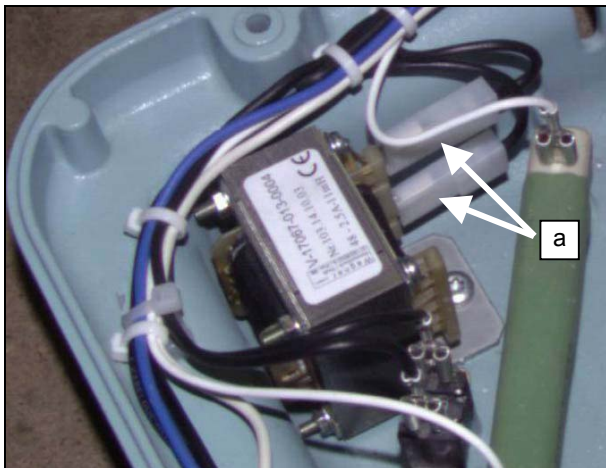

Fig. 2
- Pull both plugs (Fig. 2, a) from the mains choke coil.